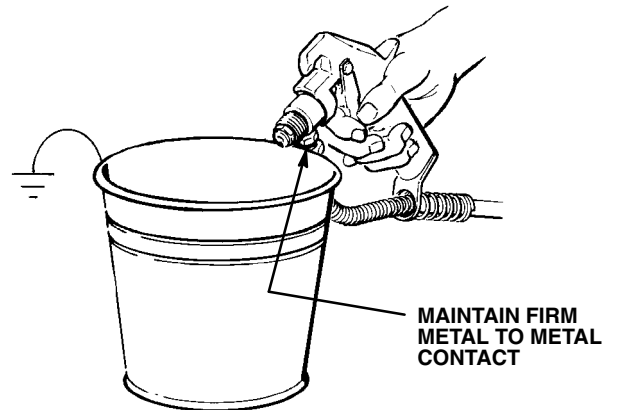

Fig 5
- 7 **To prime the pump**, hold a metal part of the gun firmly against a grounded metal waste container. See Fig 5. Squeeze the trigger and hold it open, turn the ON/OFF switch to ON, and slowly increase the pressure setting until the sprayer starts. Keep the gun triggered until all air is forced out of the system and the paint flows freely from the gun. Release the trigger and engage the gun safety latch.